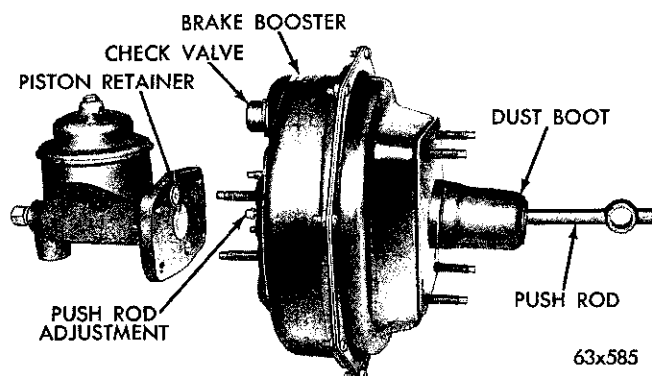

Fig. 16—Power Brake and Master Cylinder
(1) A vacuum power section which is composed of a front and rear housing, a power diaphragm, a return spring and a push rod (Fig. 16).
(2) A control valve built integral with the power diaphragm and connected through a valve rod to the brake pedal and controls the degree of brake application or release in accordance with the pressure applied to the brake pedal.
(3) A master cylinder attached to the vacuum power section contains all the conventional elements except the push rod which is a part of the brake booster.